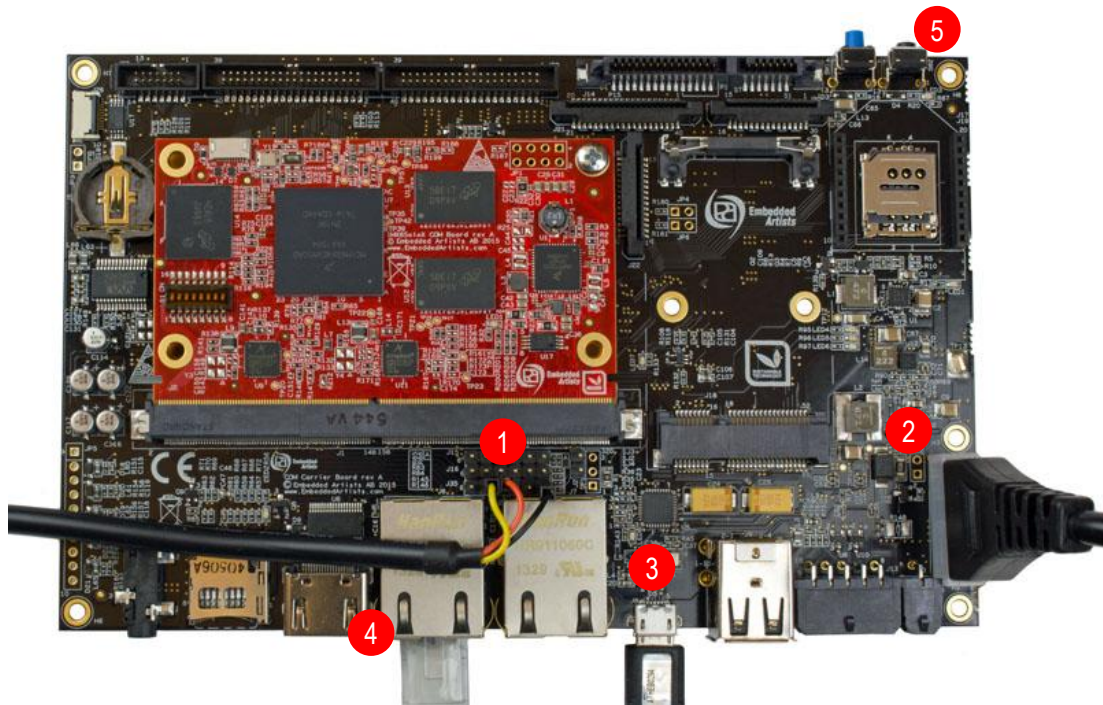
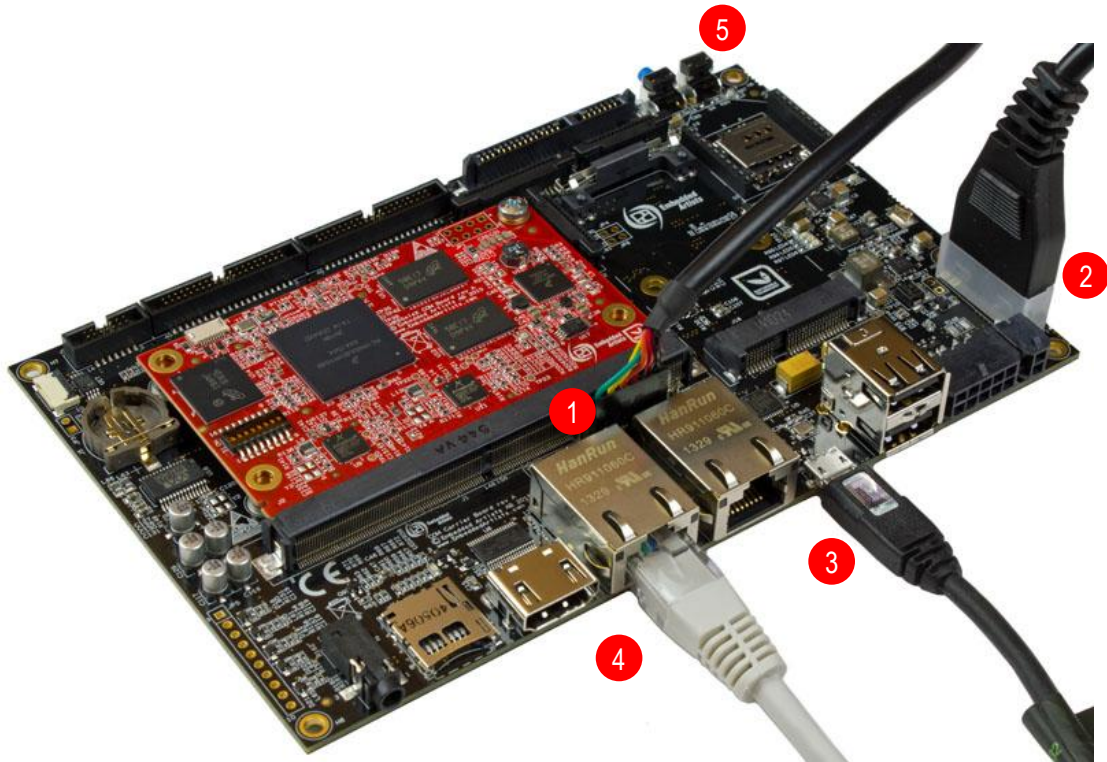

Figure 1 - iMX6 SoloX Developer's Kit Top View
Figure 2 - iMX6 SoloX Developer's Kit Side View
Figure 1 and Figure 2 below shows the *iMX6 SoloX Developer's Kit* but the pictures are generic for all *iMX Developer's Kits*.
Figure 2 above illustrates the location (1) of J16 and J35. There are three 6-position pin headers. The one closest to the Ethernet connectors is J35. The middle one is J16 and the pin header closest to the MXM3 connector is J15 (not used in this context).